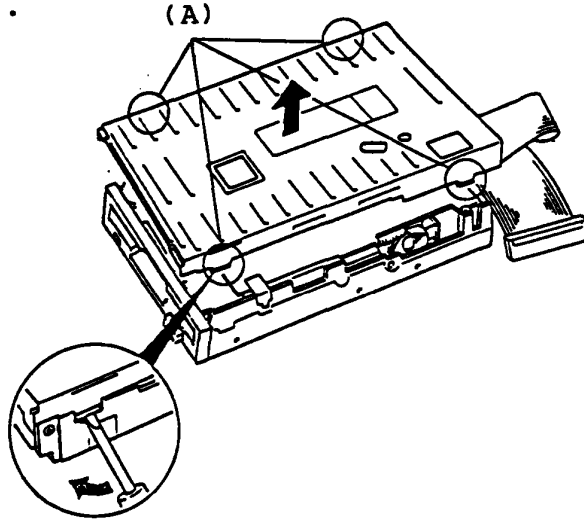

Figure 5-12 Spreading the Nails
3. Spread the four nails (A) with the blade screwdriver to remove the FDD cover as shown in the figure 5-12.
4. Remove the two screws (B) on the FDD device (C) to remove the FDD bezel (D).